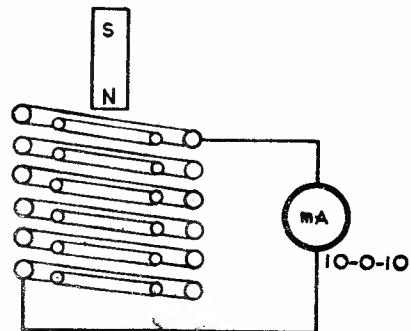

FIG. 3.
STEP 8. Connect the circuit as shown in Fig. 3 with the inner coil open circuited and the milliammeter connected to the outer solenoid.